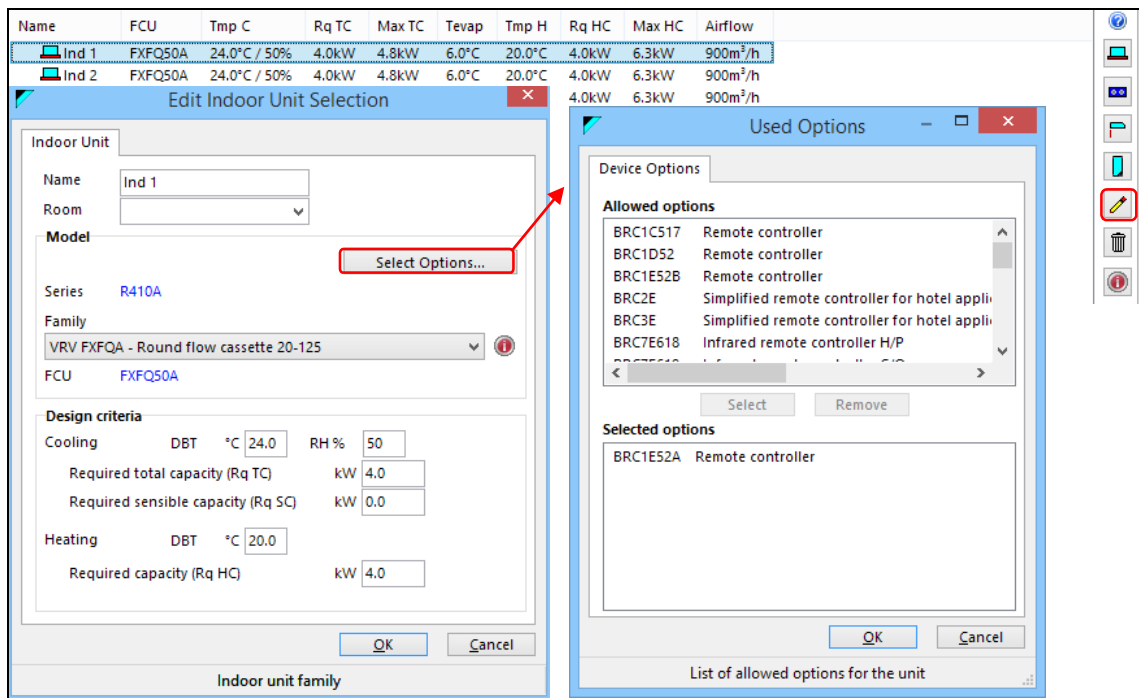

Figure 50: Selecting options
All devices (indoor units, outdoor units, BS-boxes, centralized controllers, etc) have options. These are extra printed circuit boards, sensors, covers, adaptors, etc. When editing an indoor unit, the “**Select Options**” command at the top brings up a option window, as shown in Figure 50:
The option window in Figure 50 already contains two options: a remote controller and a decoration panel. Both were selected automatically. In fact, the Daikin device database contains three kinds of options:
2. **Preferred** options appear in the list at the bottom of the option window. VRV\_Xpress selects them automatically. However, you can remove or replace them. For example, the remote controller option in Figure 50 could be replaced by another one from the list above.